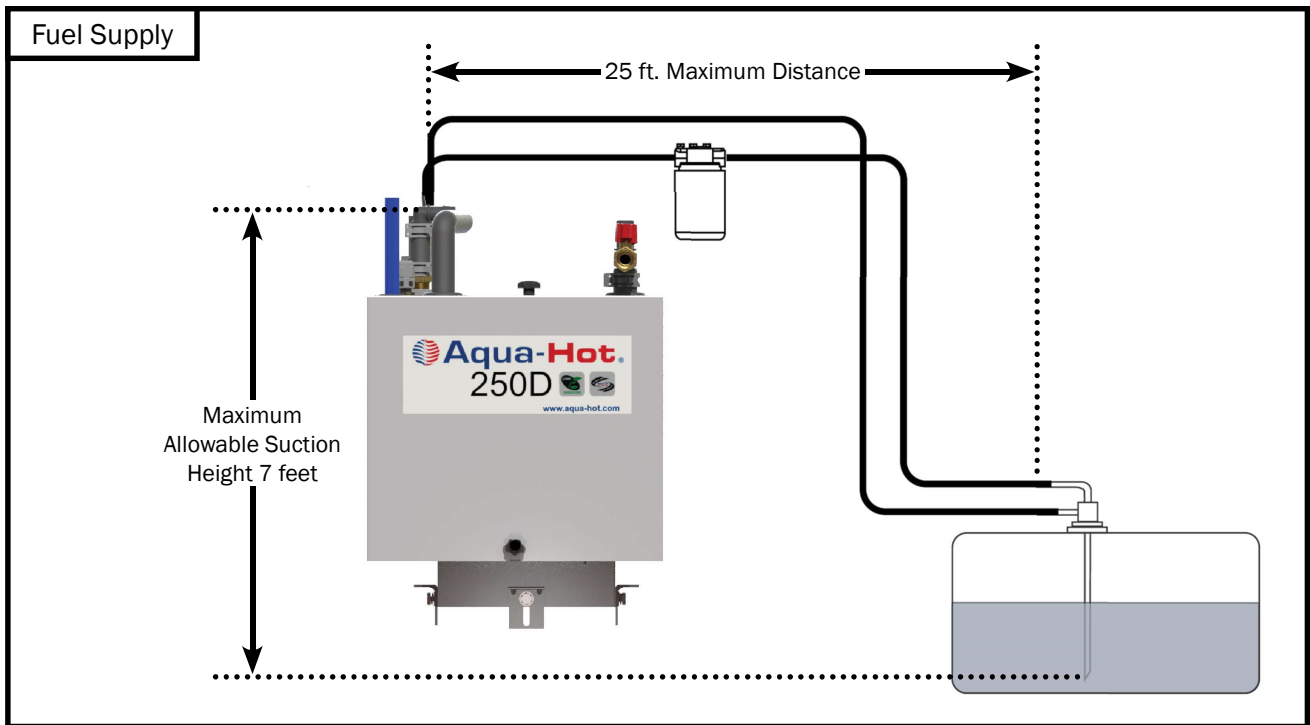

Figure 36
- The maximum allowable suction height is 7 feet. Reference Figure 36.